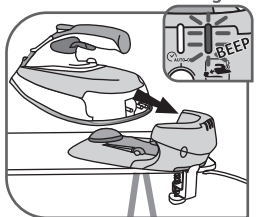

Fig. 14
- The flashing red light and beep sounds after around 30s when the iron is not on its base: the iron must be replaced on the base for recharging – fig.14.